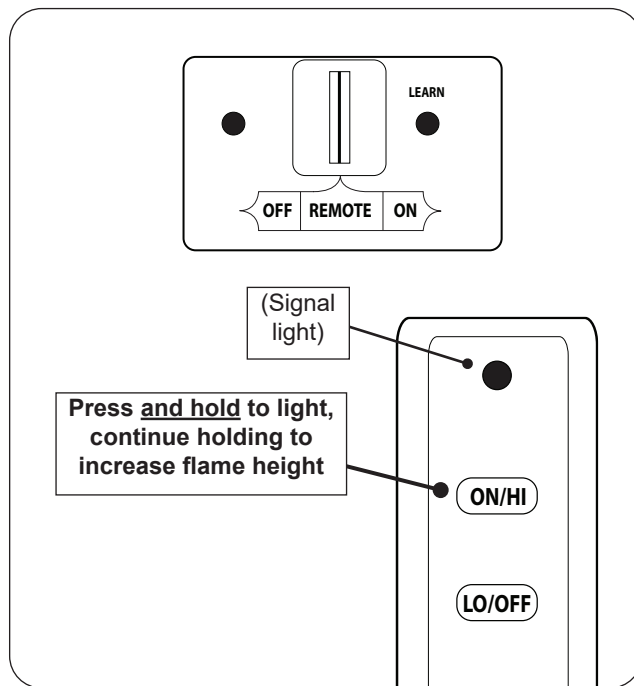

Fig. 46-1 Remote lighting
1. Ensure the pilot is burning. Locate the 3-position switch on the remote receiver, and slide the switch to **REMOTE** (see Fig. 46-1).
2. Locate the remote transmitter and press and hold the **ON/HI** button (see Fig. 46-1). The ignition sequence will begin.